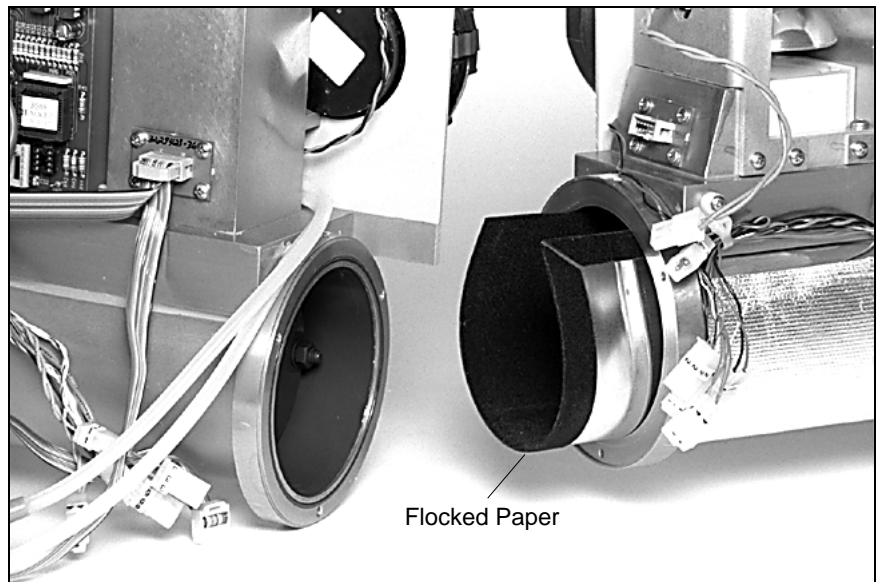

Figure 8-26
- 9.** Put a light coating of grease on the O-ring between the Nephelometer inlet and outlet sections and replace the O-ring in the groove (Figure 8-26).